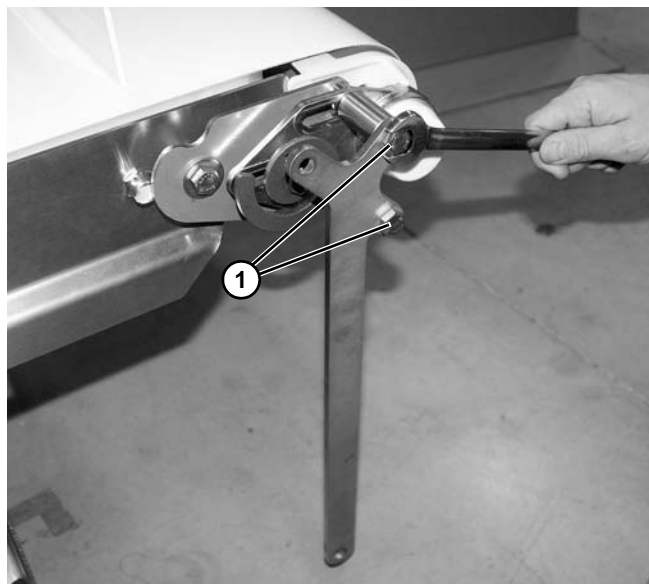

Figure 53
3. Tighten two screws (**Figure 53, item 1**).